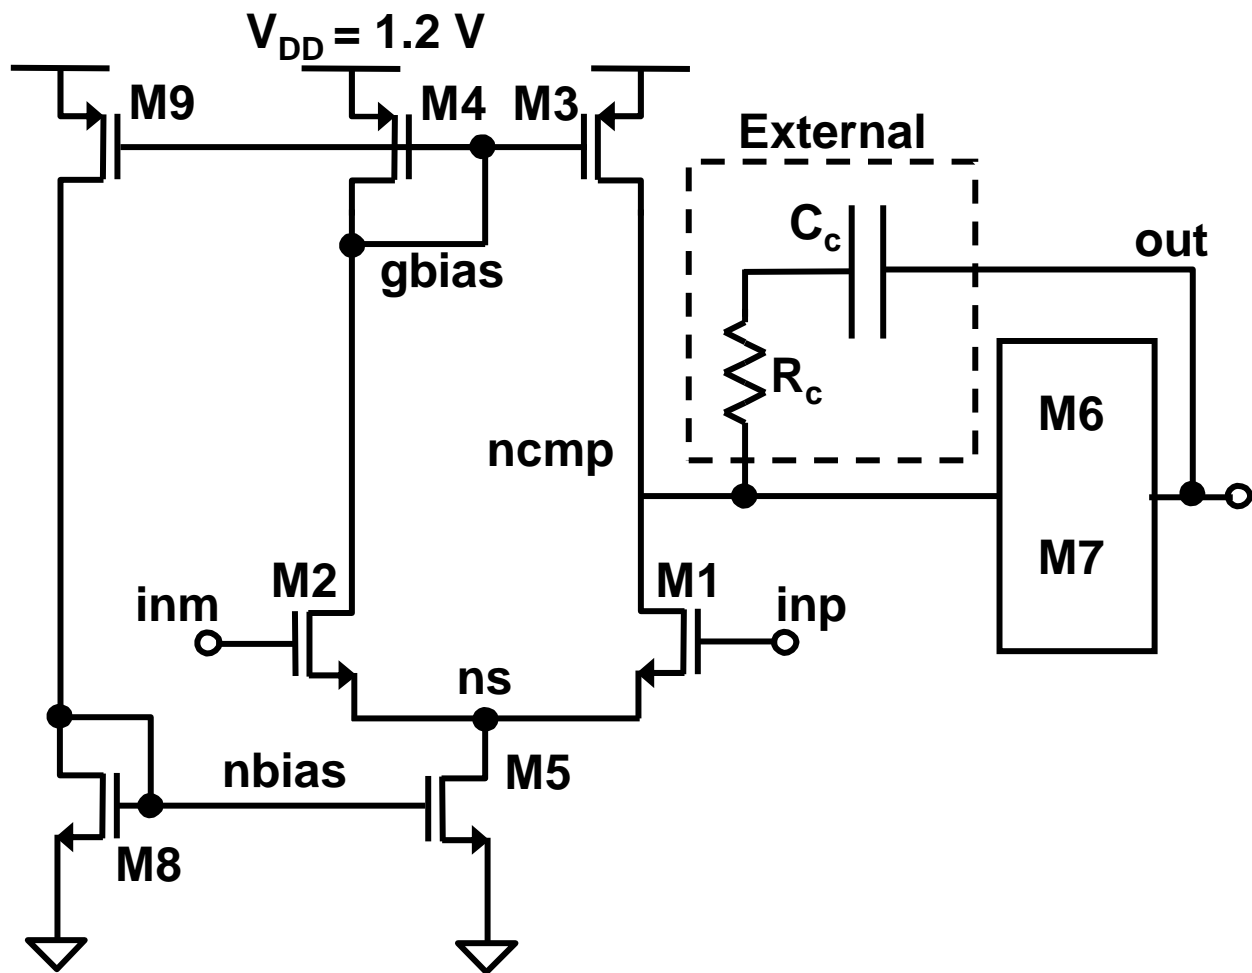

Figure 2: Two stage CMOS op amp with a self-biased differential stage and external compensation.
2. The topology shown in Figure 2 may be used as a starting point. Note that the differential pair is self-biased (no current source reference) and that you must use this circuit as the first stage.
**Optimization:** You should design your op amp to maximize the low frequency (DC) gain while satisfying all other project requirements.
4. Fill in the following tables on performance and dimensions (with the labeled units) and turn in the next page as the cover sheet for your report. If you modified the circuit schematic from the nine transistors, zero resistors shown in Figure 2, please leave the last table blank and create a similar table for your circuit.